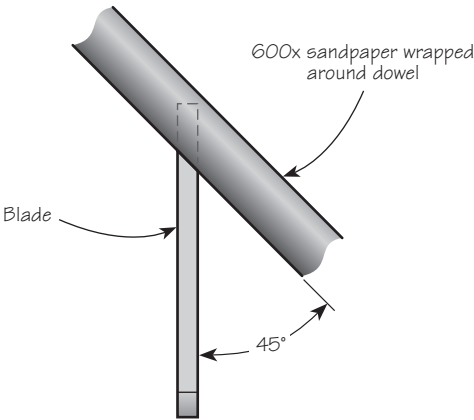
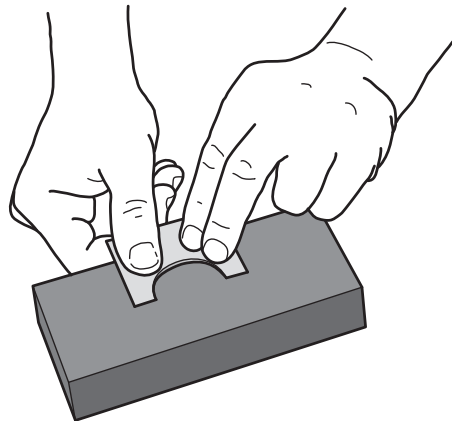

Figure 4: Honing.
Figure 5: Lapping.
Step 2 – Honing: Use a carver's slip or a sheet of 600x sandpaper wrapped around a dowel to hone the cutting edge bevel as shown in **Figure 4**. Hone only until a fine wire edge develops. Then, as shown in **Figure 5**, lap the face of the blade near the cutting edge on a 1000x stone to achieve the same finish as on the bevel. A sharp edge can only be achieved by creating two intersecting surfaces honed to the same degree.